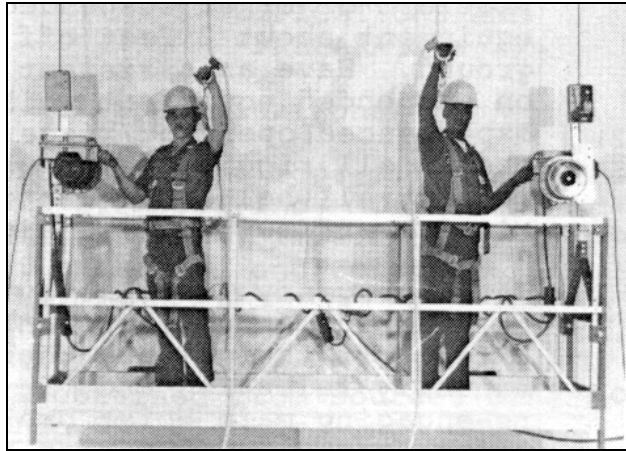

Figure 5.1
- 5.3.1 Check that each person has a separate lifeline (Figure 5.1), and is adequately tied off to a substantial building structure, but not to the same device used to support the Sky Climber hoist suspension rope.